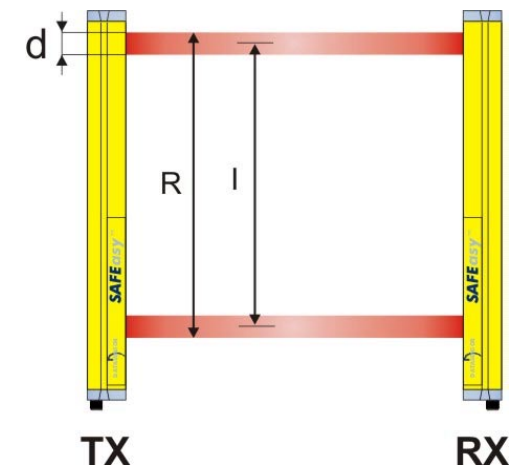

Fig. 2
Fig.2 shows the optical distance between the optic interaxis (I) and the resolution (R), with reference to the safety light curtains destined to the protection of the body.